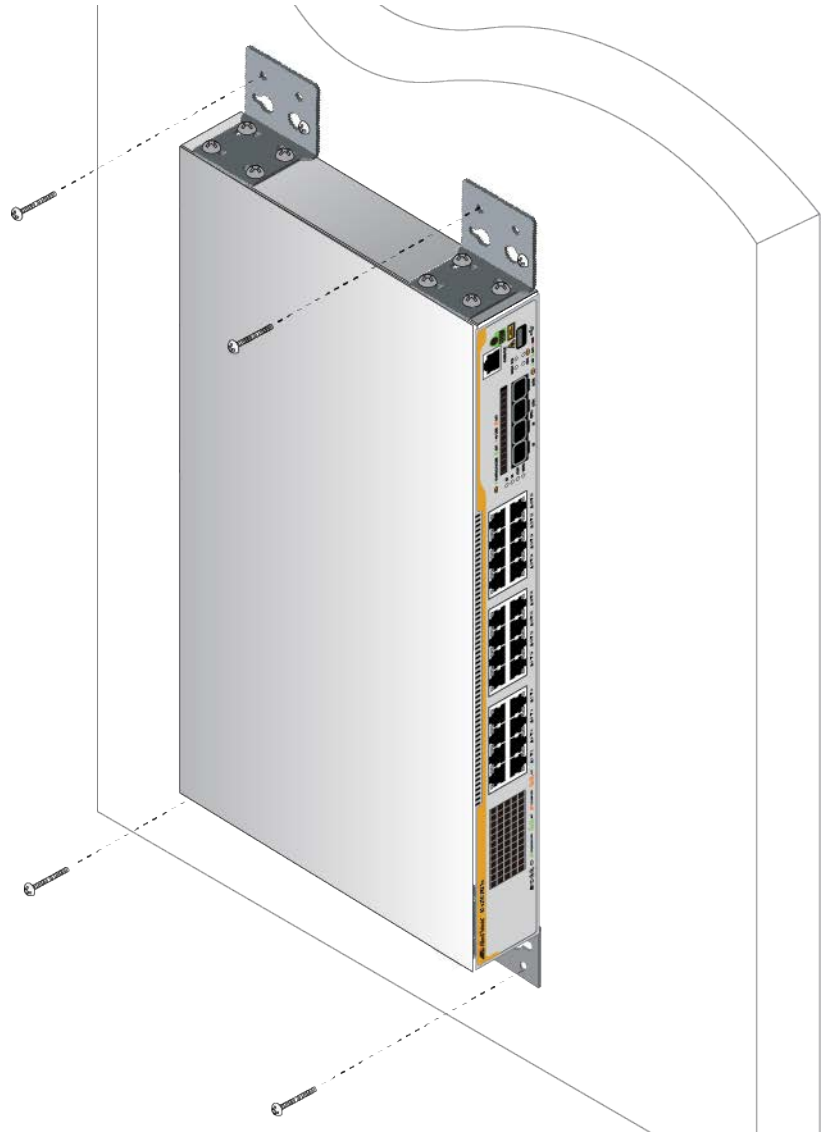

Figure 53. Screwing the Rest of the Screws
11. Install the other four screws to the rest of the pre-drilled holes. See Figure 53 on page 87.